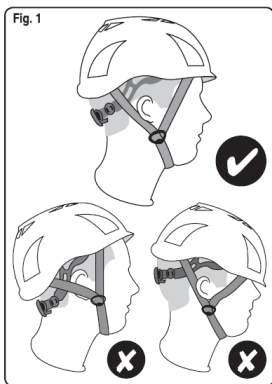

Fig. 2
2. Put the helmet on and adjust the headband using the adjuster knob (turn clockwise to tighten, anticlockwise to loosen) until you reach the desired length (Fig. 2).